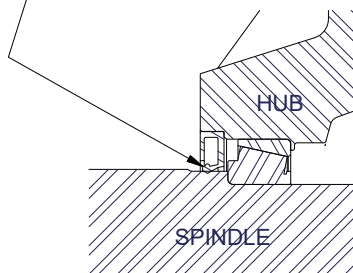

FIG. 4-74
6. Remove seal and inspect bearings, spindle washer, castle nut and cotter pin. Replace if necessary. Pack both bearings with approved grease and reinstall inner bearing. Install new seal in hub with garter spring facing the outside of hub by tapping on flat plate that completely covers seal while driving it square to hub. (FIG. 4-74) Install until flush with back face of hub. Using a safe lifting device rated for 200 lbs., install hub assembly onto spindle. Install outer bearing, spindle washer and castle nut.